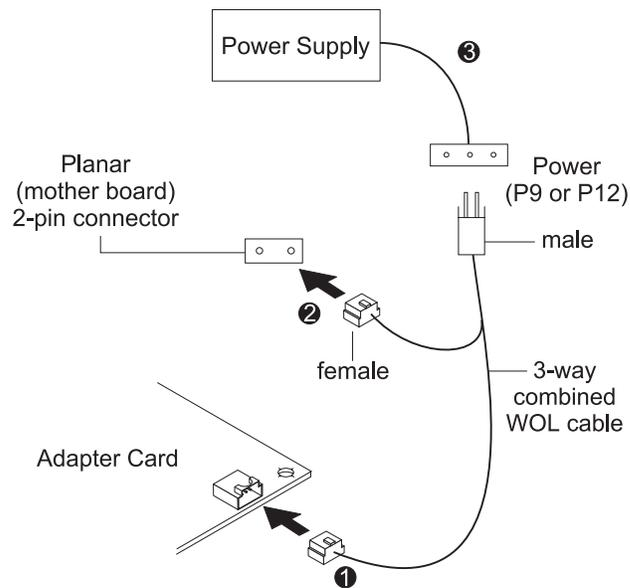

Figure 1-4. Connecting the 3-Way Wake On LAN Cable
- 2** Connect the single 3-pin female end of the 08L2558 cable to the Wake on LAN 3-pin connector on the adapter, as shown in Figure 1-4.
- 5 Locate the 2-pin Wake on LAN signal connector on the computer planar as shown in Figure 1-4 on page 1-5. On the split male-female end of the cable, connect the female connector to the 2-pin connector on the planar.